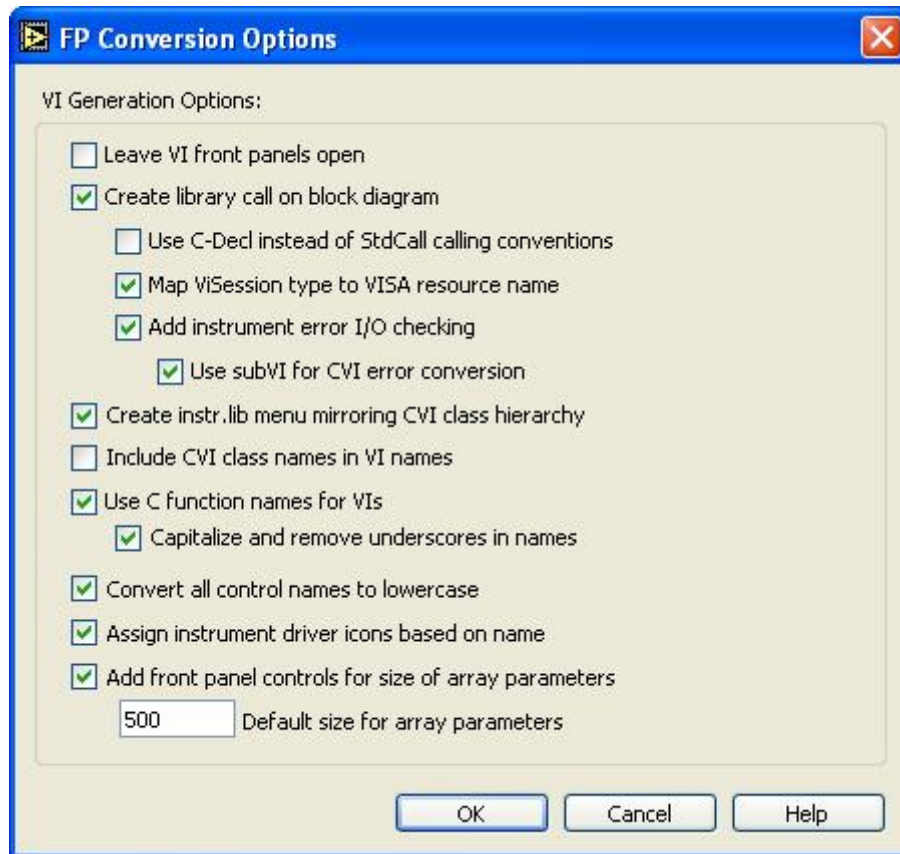

Figure 16: Converter Options Window
- Click “Options...” and set the options as shown in Figure 16: